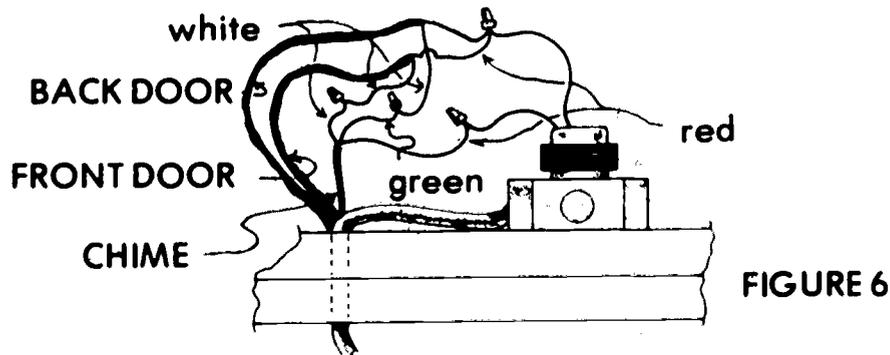

FIGURE 6
I. Make low voltage connections at transformer (Figure 6)